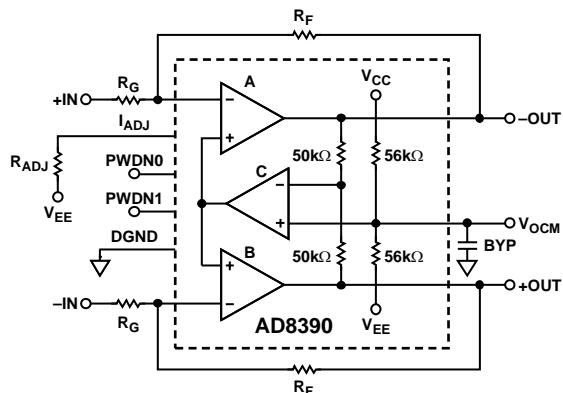

Figure 22. Functional Block Diagram
The AD8390 is a true differential operational amplifier with common-mode feedback. The AD8390 is functionally equivalent to three op amps as shown in Figure 22. Amplifiers A and B act like a standard dual op amp in an inverting configuration that requires four resistors to set the desired gain.
The third amplifier (C) maintains the common-mode voltage ( $V_{OCM}$ ) at the output of the AD8390.  $V_{OCM}$  is internally generated as shown in Figure 22. The common-mode feedback amplifier (C) drives the noninverting terminals of A and B such that the difference between the output common-mode voltage and  $V_{OCM}$  is always zero. This functionality forces the outputs to sit at midsupply, which results in differential outputs of identical amplitude and 180 degrees out of phase. The user also has the option to externally drive the  $V_{OCM}$  pin as an input to set the dc output common-mode voltage. For details, see the Setting the Output Common-Mode Voltage section.